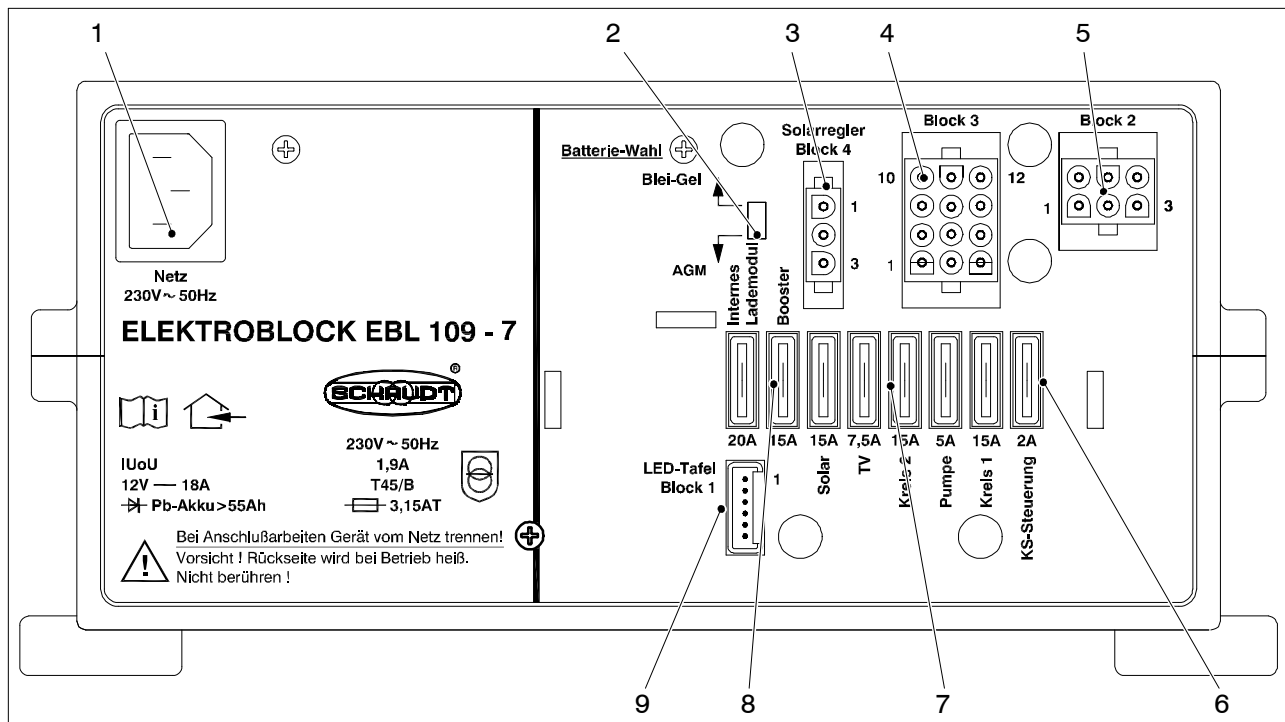

Fig. 2 Front view of EBL 109-7 Electrobloc
Ensure that the battery selector switch (Fig. 2, Pos. 4) is set to the correct position for the battery installed. If it is not, damage to the battery or connected devices can result.
▶ Move the battery selector switch (Fig. 2, Pos. 4) to the correct position using a thin object (e.g. a ballpoint pen):